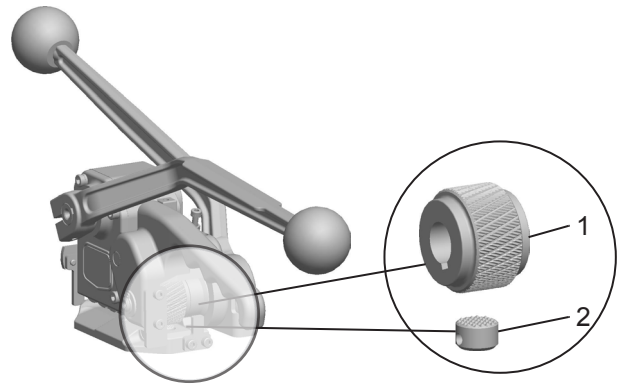

Fig. 15
If you just spend five minutes a month on your high quality strapper, we will extend a 3-year warranty. All you need to do is carry out the following simple checks once a month see Fig.15 and 16.
- Clean any swarf and dirt off the tensioning wheel (Fig. 15/1), either by compressed air or with a small wire brush. Clean the toothed plate (15/2) at the same time. Note ! Wear protective goggles if you use compressed air!